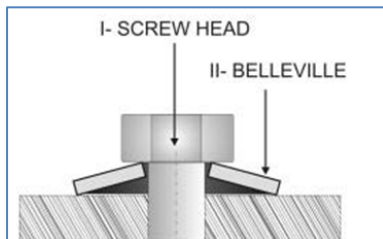

Figure 11
2. Tighten to **16 lb-ft** after checking for proper Belleville washer arrangement (Figure 11).
2. Reinstall the nuts and tighten to **7 lb-ft** after checking for proper Belleville washer arrangement (Figure 11). Tighten the exterior nut slightly below 7 lb-ft if spring deforms.
5. Tighten the nuts to **7 lb-ft** after checking for proper Belleville washer arrangement (Figure 11).